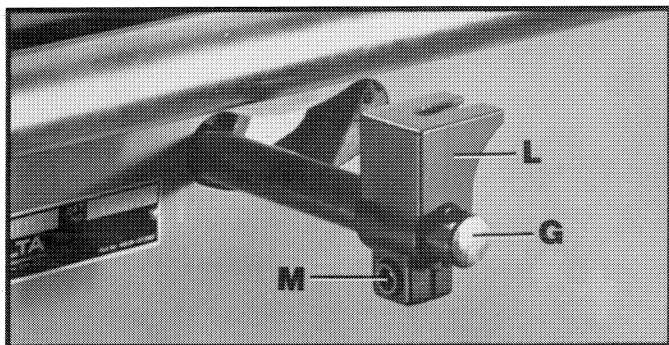
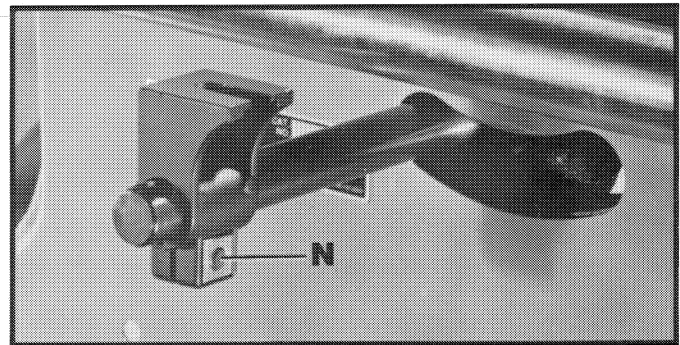

Fig. 8
Fig. 9
9. Assemble bracket (L) Fig. 8, to the rear of the support rod (G) using screw (M) Fig. 8, and nut (N) Fig. 9. Do not completely tighten screw (M) Fig. 8, as adjustment will be necessary later.